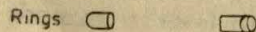

FIG. 2.4.8
8. Take an aluminium strip nearly 1 cm wide 0.2 cm thick. Make two rings of internal diameter equal to the external diameter of the tube. Fig. 2.4.8.